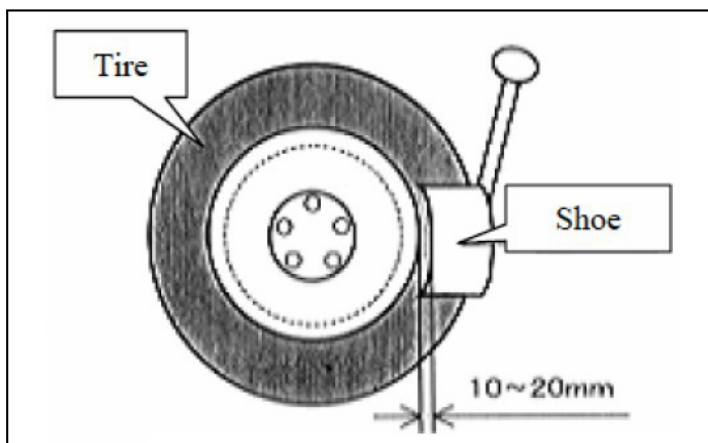

Figure 4
- c. Carefully separate the upper tire bead from the wheel rim. See Figure 4.